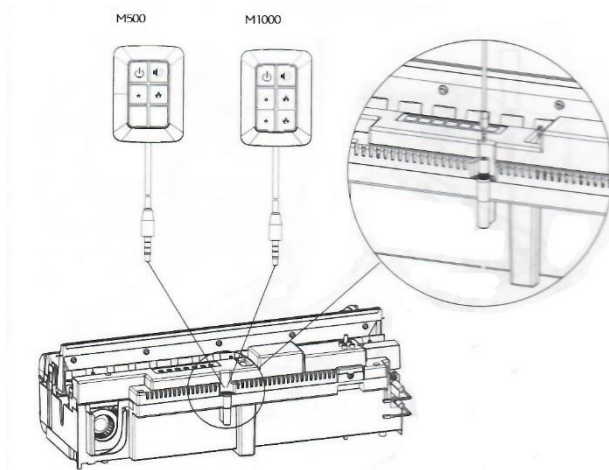

Fig. 12
1. Ensure that the receiver has been connected to the product by pushing in the 3.5 mm plug fully into the jack (Fig. 12).